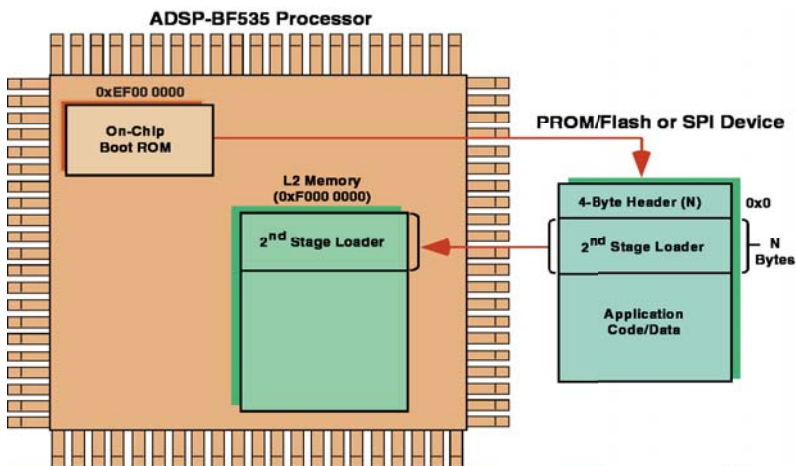

Figure 3-7. ADSP-BF535 Processors: Booting With Second-Stage Loader
1. Upon reset, the on-chip boot ROM downloads N bytes (the second-stage loader) from external memory to address `0xF000 0000` in L2 memory (Figure 3-7).